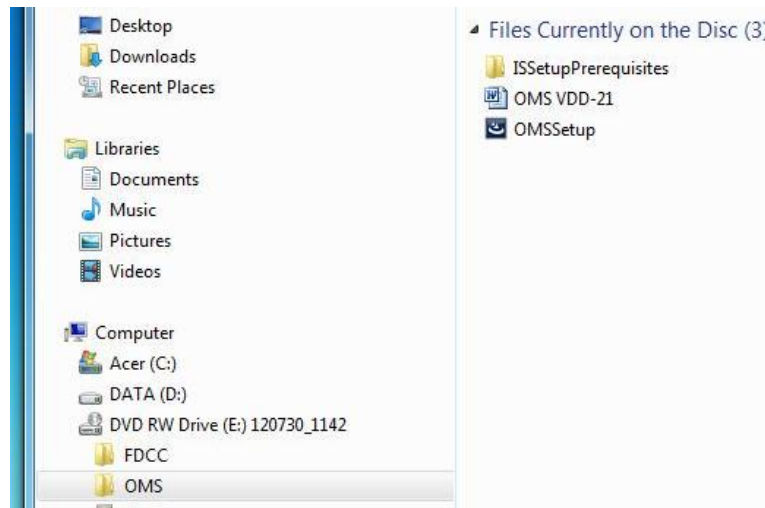

Figure C-2: OMS Folder and Setup Screen
7. Double-click on the **OMS** folder (Figure C-2).